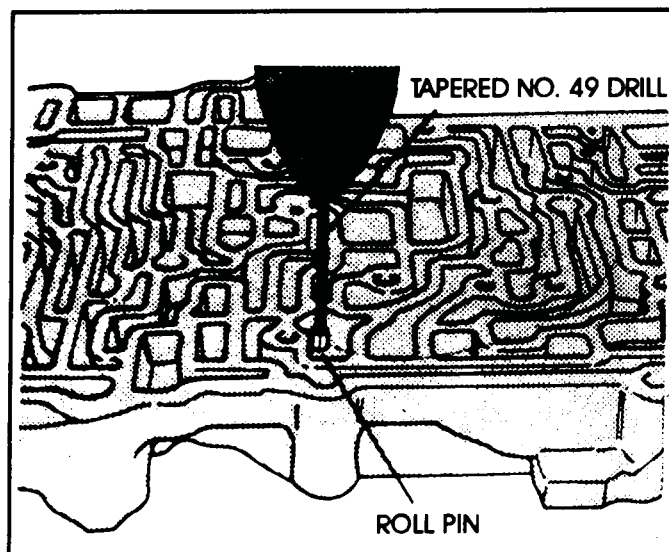

Figure 154
23. Use a No. 49 drill bit, grind a taper to one end of drill bit. Lightly tap tapered end of drill bit into the roll pins, then pull straight up, remove the roll pins (See Figure 154).